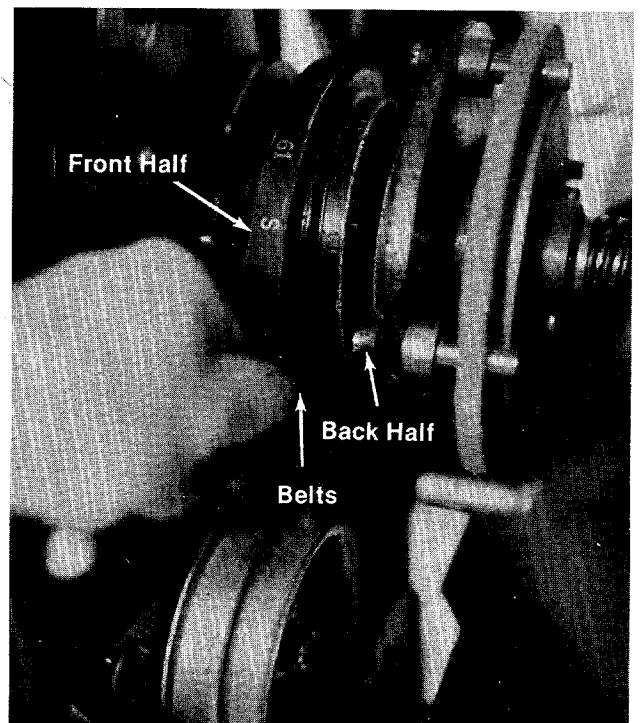

Figure 32
4. Slide the front half of the pulley forward and the back half of the pulley backwards. Remove the belts through the two halves. (See figure 32.)